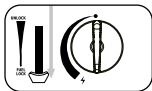
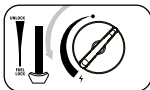

Fig. 3
Fig. 4
4. Press the cartridge lever (1) down (fig. 3) and close the cartridge cover.
5. If you hear a hissing noise, the cartridge is not seated correctly. Do not try to turn on the appliance, but move the lever (6) to the "UNLOCK" position and repeat steps 1 to 4.
6. Turn the wheel (8) completely to the on position until it clicks (fig. 4). Repeat this action until the burner lights.